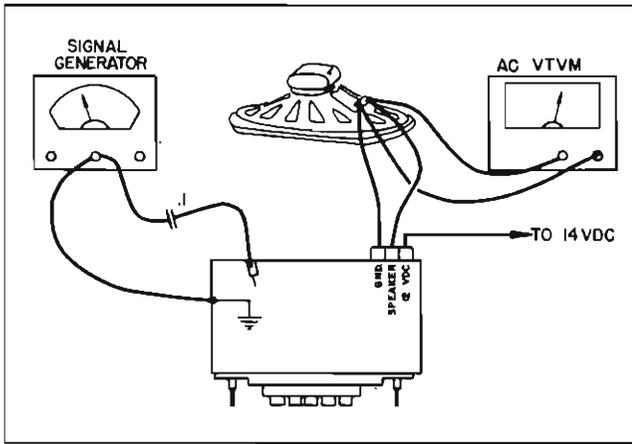

Figure 32 - HOOK-UP FOR SIGNAL AND OUTPUT METER
1. With speaker connected to radio connect AC voltmeter across speaker voice coil. Use low voltage scale. Turn volume control fully clockwise. See Figure 32.
7. Change value of capacitor in series with signal generator lead to 82 mfd. See Figure 32.